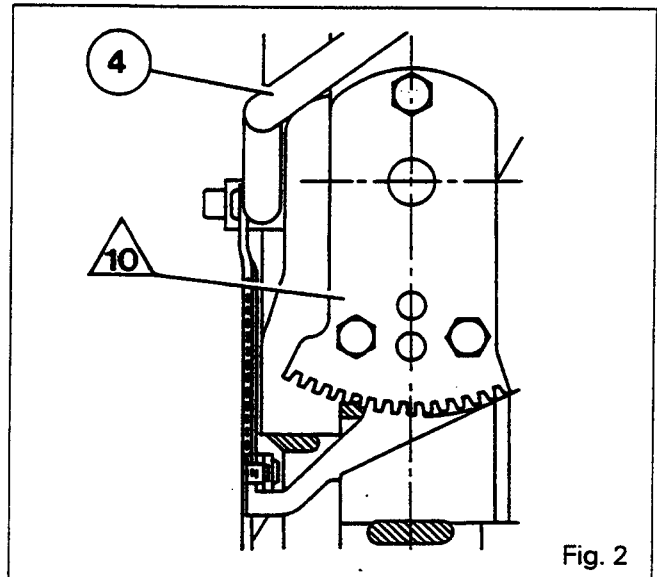

Fig. 2
22. Compress spring (7). Position the rack /10\ as per Fig. 2 to avoid any interference with lever (4). Fit and tighten bolts (6) after coating them with Loctite 241.
23. Refit the lever (4), rod T and spring (3). Replace the retaining washers (1) and (2).
24. Adjust the lever (4), with rod T in contact with the notched lever (9), using the adjusting screw [5] (3 mm Allen wrench).
47. Reassemble the housing (20) and mobile column (21) assemblies. Fit pins (18) and (19). Crimp pin (18).
48. Refit the springs (17).
49. Compress spring (7). Position the rack /10\ as per Fig. 2 to avoid any interference with lever (4). Fit and tighten the bolts (6) after coating them with Loctite 241.
50. Adjust the lever (4), rod T in contact with the notched lever (9) using the adjusting screw [5] (3 mm Allen wrench).